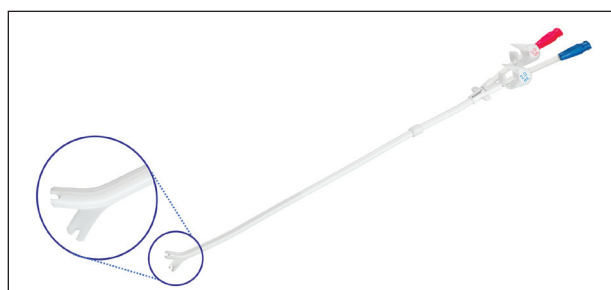

Figure 1. The Pristine™ Catheter with zoomed-in view of the Y-Tip™ distal lumen.
BD's Pristine™ Long-Term Hemodialysis Catheter side-hole free tip is designed to help minimize thrombus adhesion that can be associated with side-hole catheters (Figures 1 and 2). The catheter's innovative Y-shaped, split, symmetrical tip was cast to fit the anatomy of the right atrium with an anterior/posterior (AP) orientation to help optimize flow.